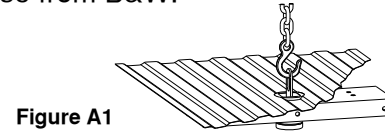

Figure A1
6. **Prepare a lifting device (optional).** The purpose of the device is to safely hold the hitch in position during part of the installation, see Figure A1 for an example. A simple mechanical lifting device is available for purchase from B&W.